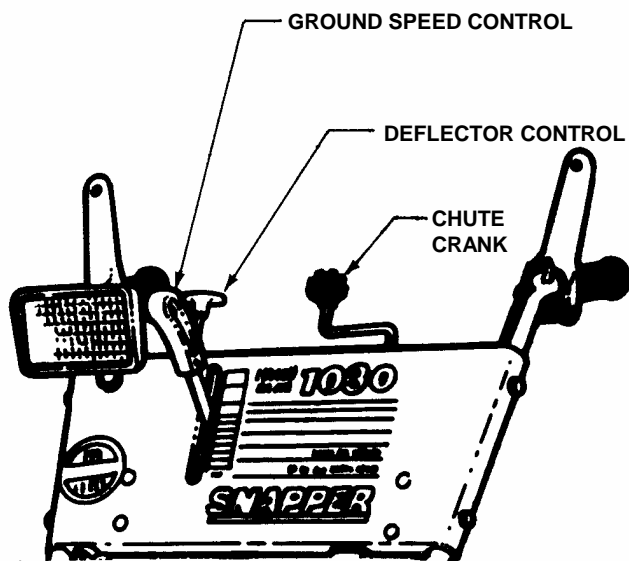

FIGURE 2.5
1. Move ground speed control to the desired speed position. See Figure 2.5.
3. Rotate chute crank to position discharge chute in desired direction. See Figure 2.5.
1. Move wheel drive control lever against handle to engage wheel drive. Ground speed can be adjusted while the machine is moving by changing position of the ground speed control. Machine has six forward speeds and one reverse. See Figure 2.5.